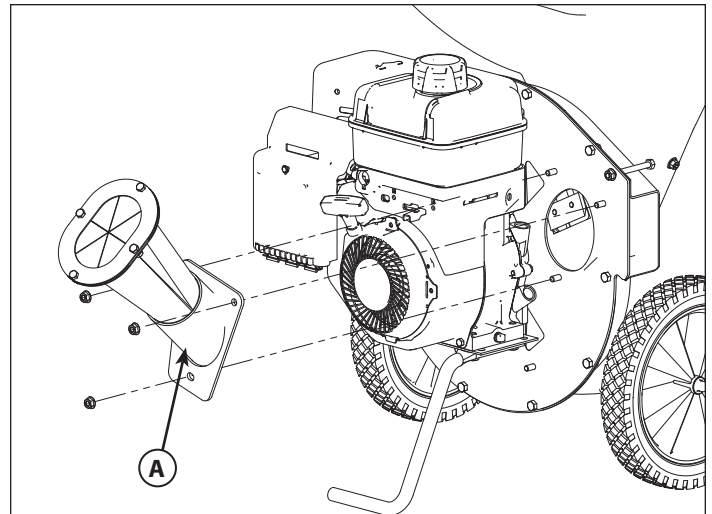

FIGURE 13 - Inspect Chipper Knives
2. Remove the nuts securing the chipper cone to the front of the chipper. Remove the chipper cone (A) to access the knives. **SEE FIGURE 13**